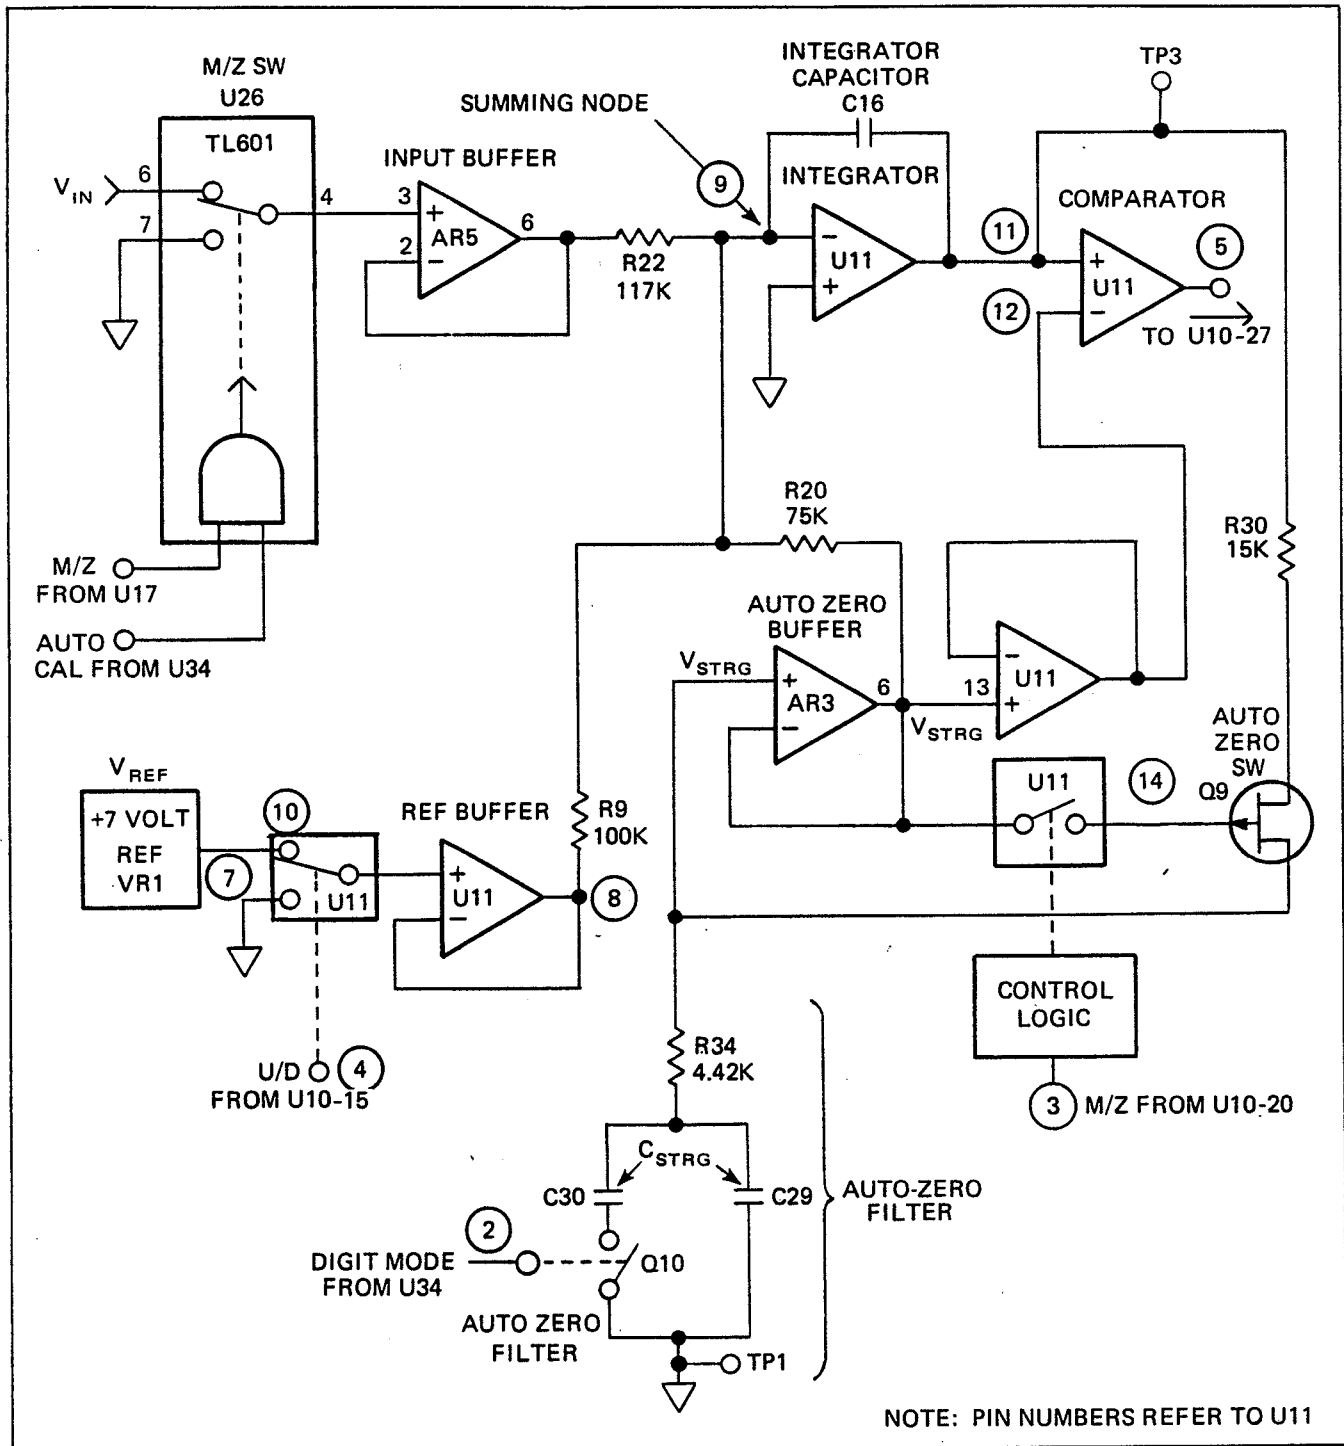
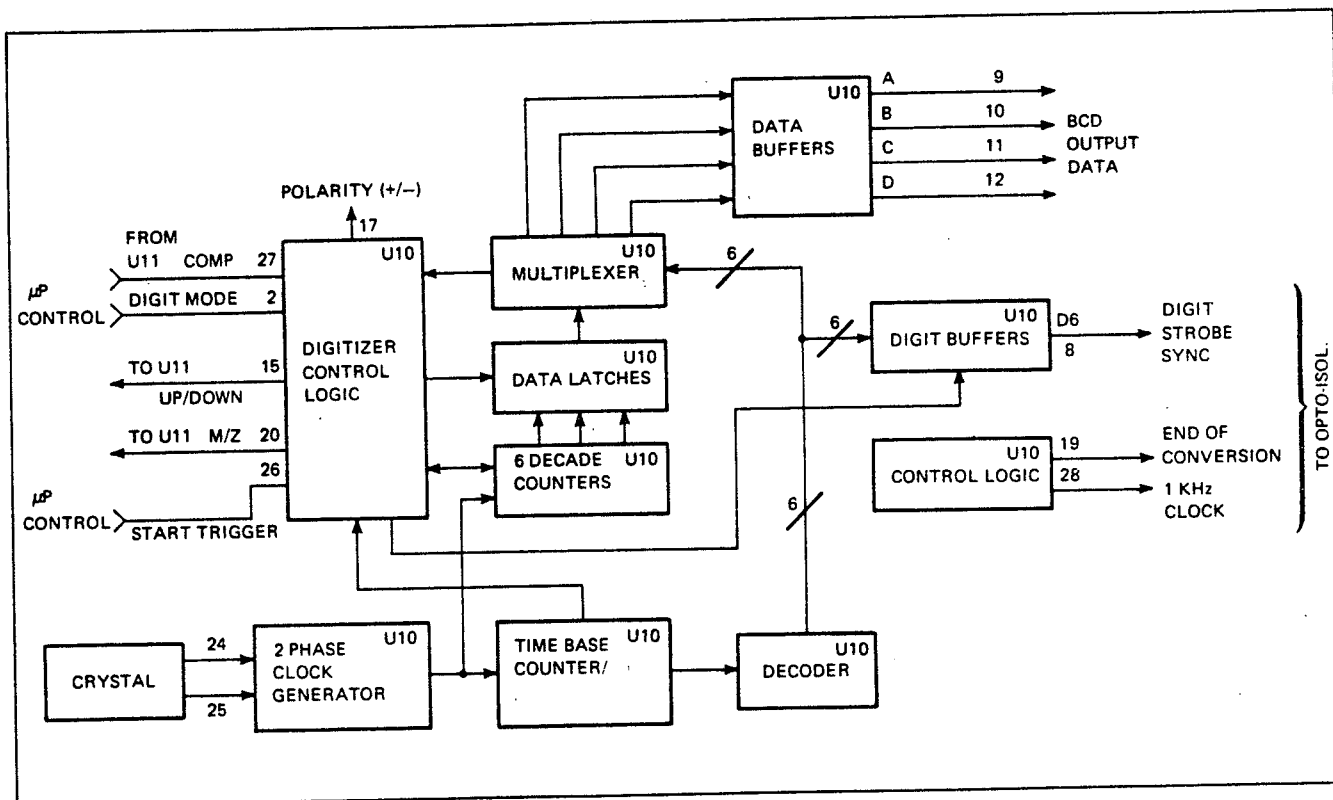

Figure 4.8 - Simplified A/D Analog Processor
Figure 4.9 - A/D Digitizer Counter and Control
Q10, Voltage Reference VR1, and Opto-isolator drivers U9/U17. A simplified diagram of the Analog Processor and supporting external circuitry is shown in Figure 4.8 where designators and circled numbers relate to the A/D schematic at page 6-9'. A block diagram of the A/D Digital Counter and Control is presented in Figure 4.9.
4.4.3.1 Referring to Figure 4.8, during the Auto-zero (A/Z) interval the input of AR5 (Input Buffer) is switched from the Isolator output to analog common by M/Z switch U26. Auto-zero switch Q9 is enabled and connects the Integrator output to Auto-zero filter capacitors C29 and C30, and the input of Auto-zero buffer AR3. Both switches are controlled by the M/Z signal from the Digital Control IC, U10. The U/D control signal, with its 50% duty cycle, alternately switches the input of the Reference Buffer between Analog Common and the 7 volt reference, VR1. When the U/D control is low, the Reference Buffer output is equal to +7 volts; when the U/D control is high, the Reference Buffer output is zero. The Integrator input current (pin 9 of U11) is a summation of currents from the Input Buffer, Reference Buffer and Auto-Zero Buffer through resistors R22, R9 and R20 respectively. The average current through R9 is equal to one-half the Reference Voltage divided by the value of R9, $\frac{V_{REF}}{2R9}$, because the reference current is flowing